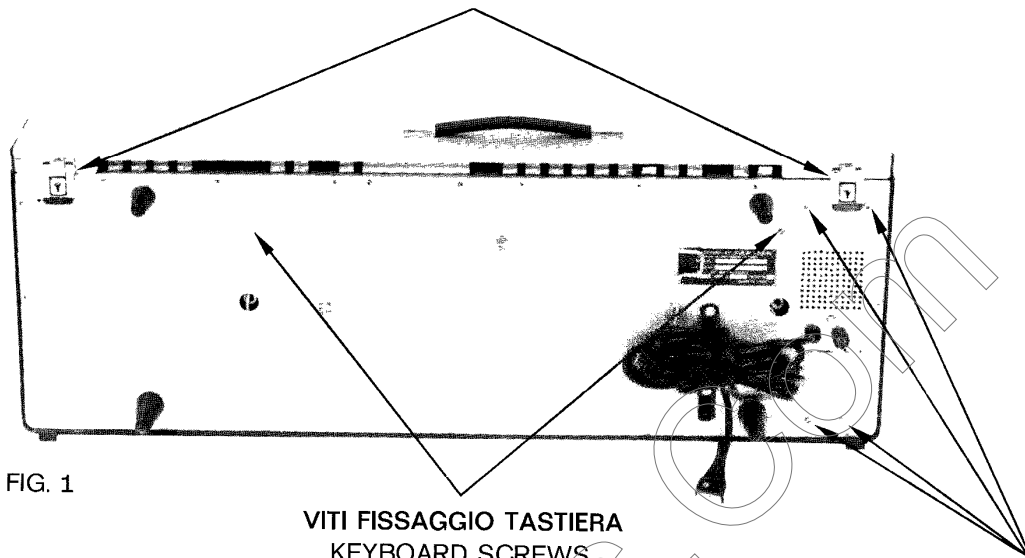

FIG. 1
- 5) Per alzare la tastiera occorre svitare le due viti indicate in fig. 1. Non si può alzare la tastiera se non vengono rimossi i due copricapezzali.
- 1) *in figure 1 the Syntorchestra is shown closed, to remove the front lid, unhook the respective hinges. When transporting, it is advisable to fasten the music rack and the mains cable as per figure 1. From this position it is possible to reach the following parts:*
- 5) *To lift the keyboard, unscrew the two screws indicated in figure 1. The keyboard cannot be lifted if the two endblocks aren't removed first. The following parts can be reached:*